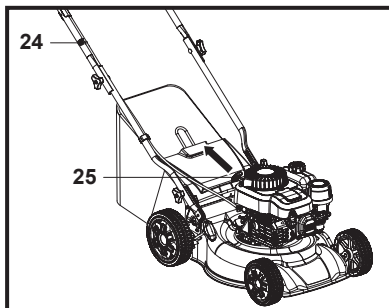

Fig. 11
2. Pull the recoil starter handle (25) lightly until you feel resistance then pull it rapidly. Do it repeatedly until the engine starts (Fig. 11).